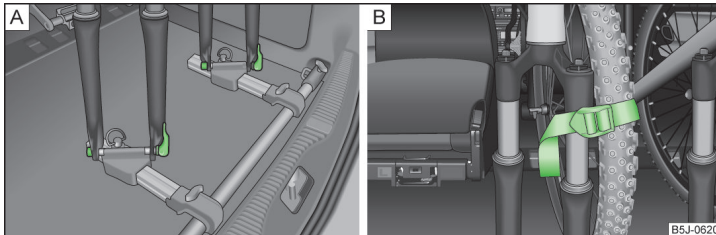

Fig. 74 Put in the bicycle/example fastening the front wheel
- Place the bicycle fork on the fixing axle and tighten with the quick release lever » Fig. 74 - **A**.
- It is best to store the removed front wheel between the left crank and the bicycle frame, attach it with a strap to the front fork » Fig. 74 - **B** or to one of the fixing points.